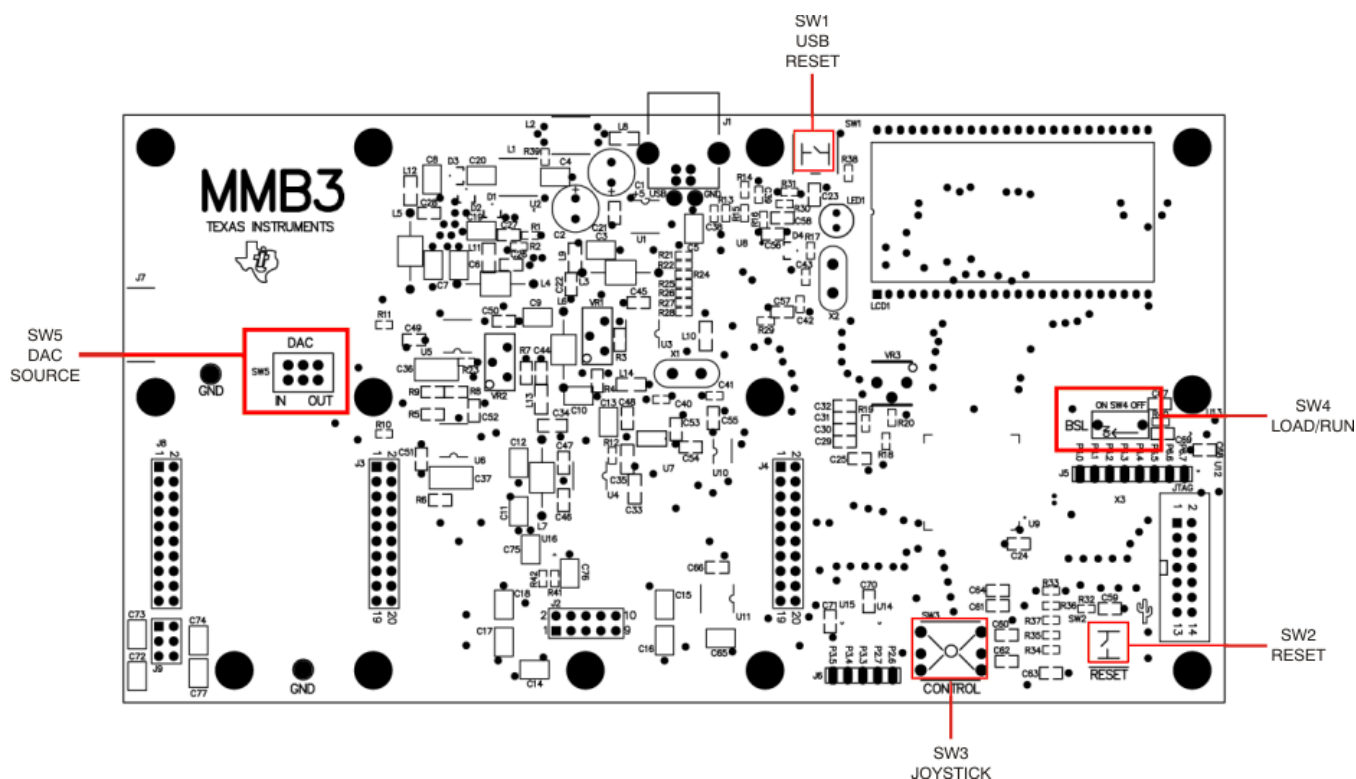

Figure 4. MMB3 Switch Locations
- Step 2. Set the switches on the MMB3 as described below, as Figure 4 illustrates.
- If the ADS1115EVM plug-in cannot find the ADS1115EVM-PDK, press the USB RESET button on the MMB3 (refer to Figure 4) and try again.